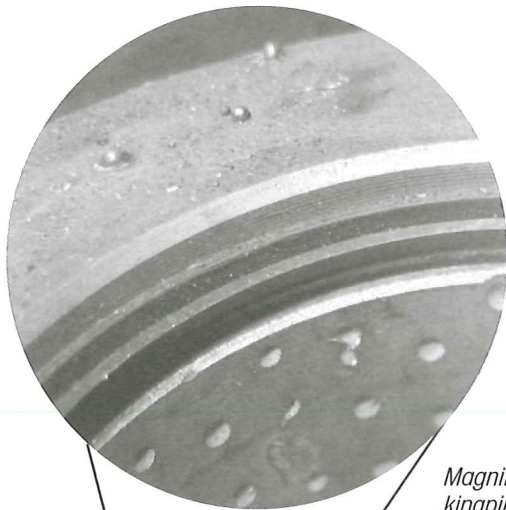

Figure 18.
3. Install the backbone assembly on the kingpin. It will be necessary to support the backbone assembly with a bottle jack and a block of wood under the backbone assembly. (See Figure 18)
5. Install the upper kingpin connection on the upper kingpin. (See Figure 18)